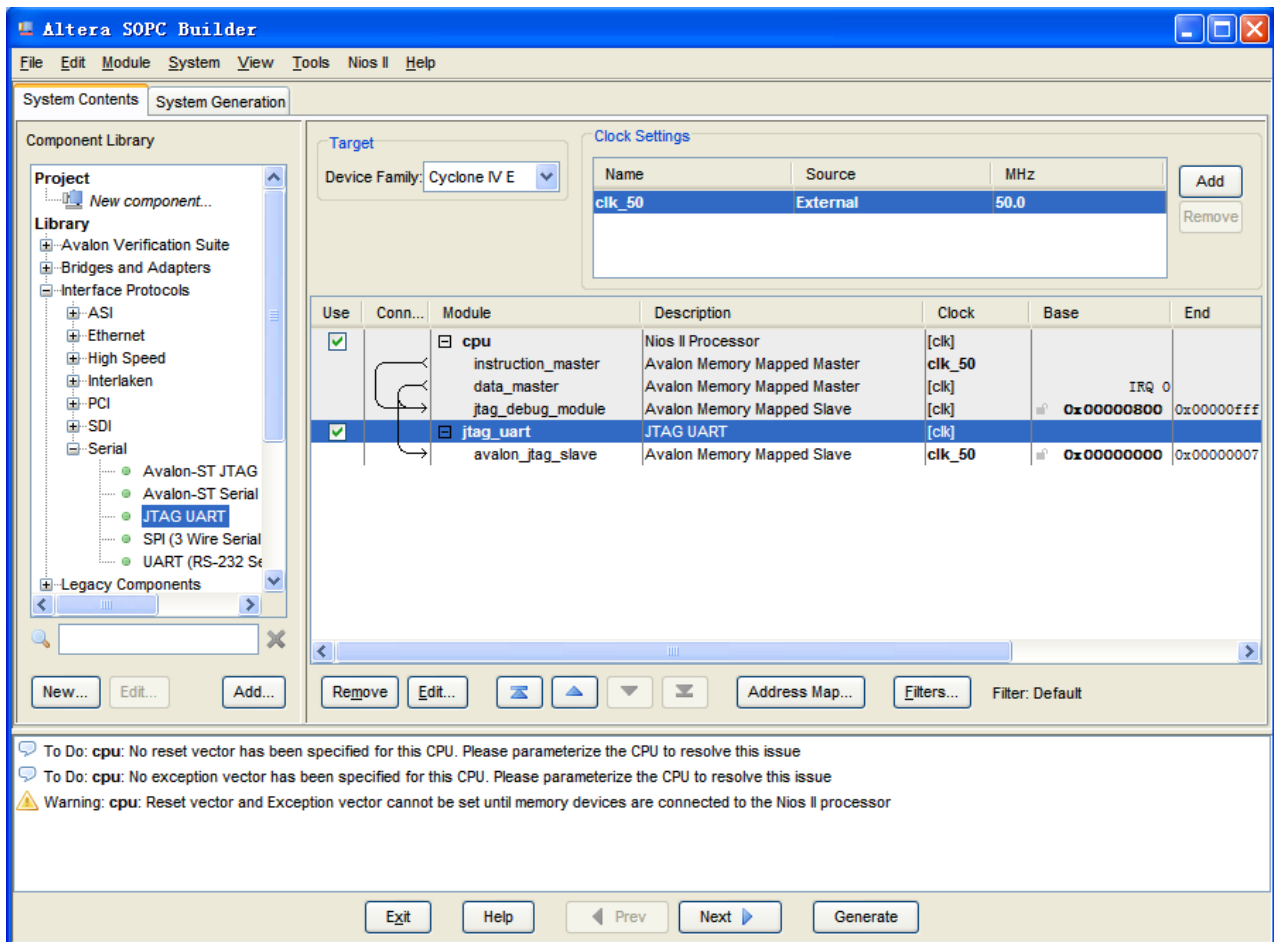

Figure 7-22 Rename JTAG UART
13. Select the **jtag\_uart\_0** component and rename it to **jtag\_uart** as shown in Figure 7-22.